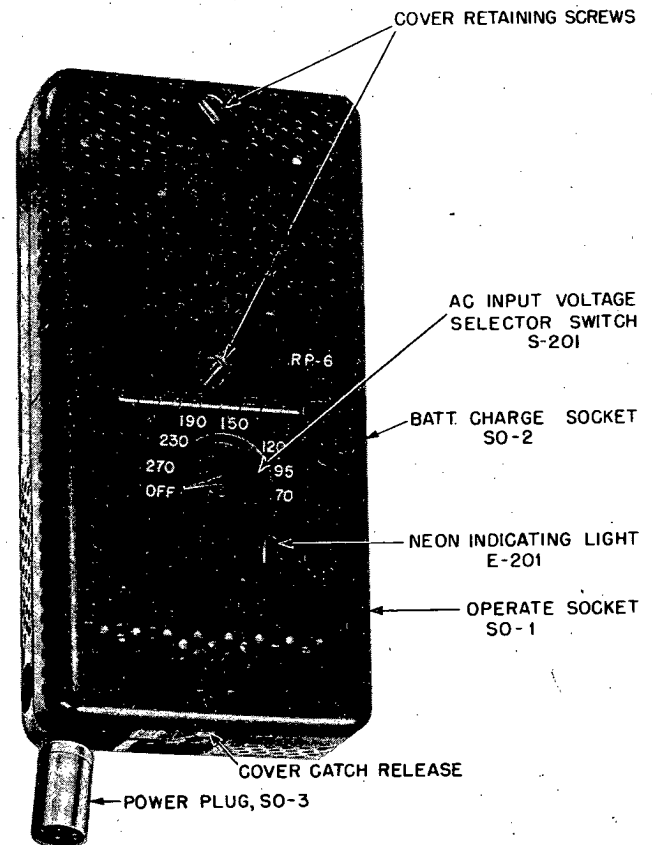

Figure 3. Power Supply RP-6 showing control switch and power plug
a. Turn input voltage selector switch on Power Supply RP-6 (Figure 3) to OFF.
(1) Turn the input voltage selector switch on Power Supply RP-6 to OFF. (Figure 3).
(2) Insert Jones plug marked BATT in receptacle marked BATT CHARGE.
(3) Connect red battery lead to +6 volt terminal of storage battery.
(4) Connect black battery lead to -6 volt terminal of storage battery.
(5) Insert Jones plug marked AC in receptacle marked OPERATE.
(6) Do not connect Power Supply RP-6 power plug to Filter-Accessory Unit RA-6 or fuse will be blown.
(7) Connect the two-prong plug of the AC cable assembly to any AC power source whose voltage is between 70 and 270 volts, and frequency between 40 and 400 cycles. The two-prong AC power plug can be adapted to various receptacles in the following ways: